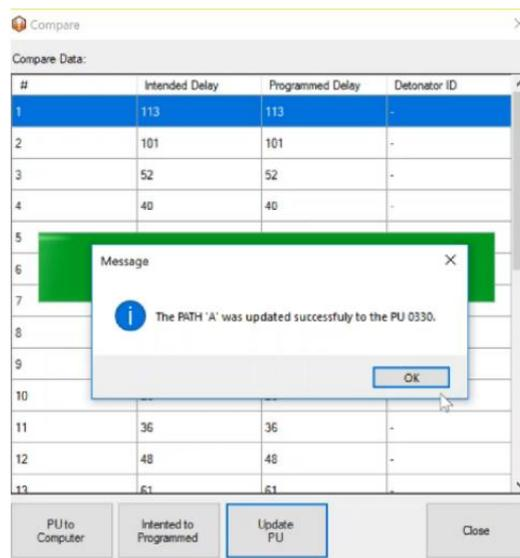

Fig. 334 - Update to PU option
2. Clicks on the button "Update PU" (Fig. 334).
3. Confirmation message (Fig. 334).